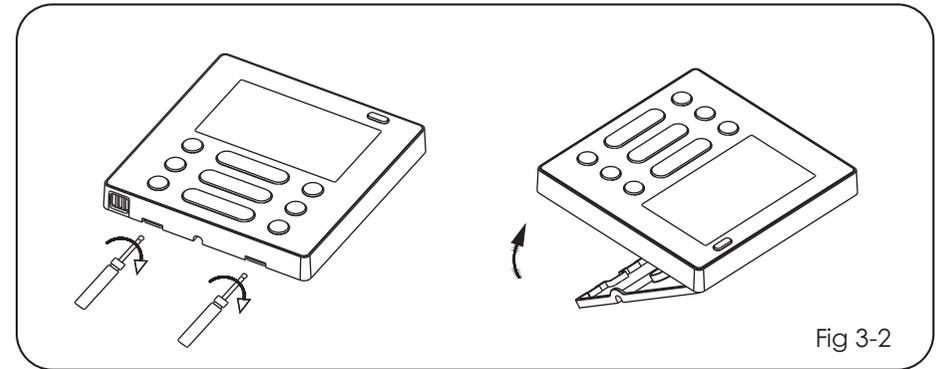

Fig 3-2
3. Remove the control cover at the bottom with the screwdriver. (See Fig.3-2)